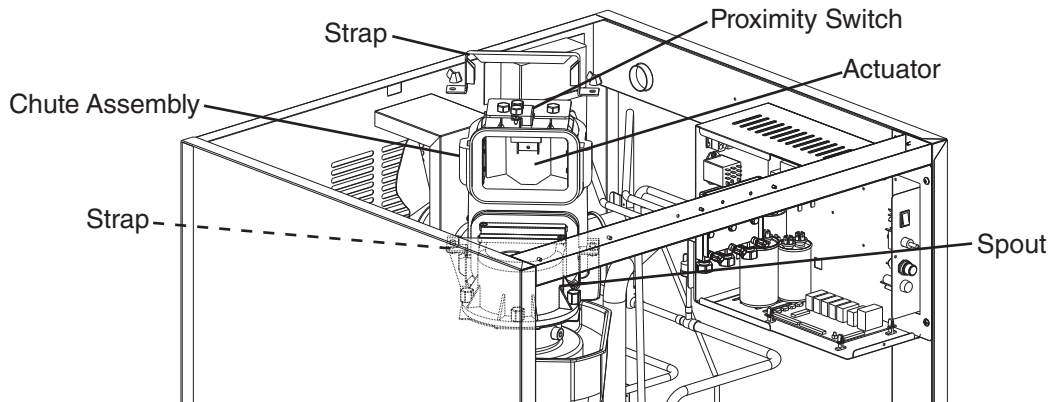

Fig. 20
- 3) Remove the strap connecting the spout to the chute assembly. See Fig. 20. Pull up the chute assembly slightly so that you can access the actuator located in the top of the chute.